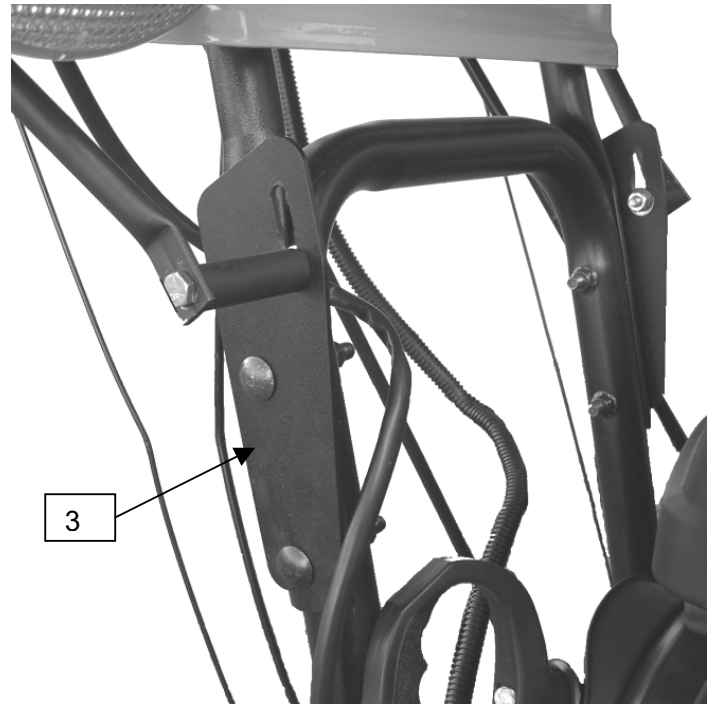

Figure 9
Step 2; See Figures 9, 10 & 11:
- A.** Install the mounting plates with slots forward as shown in Figure 9.